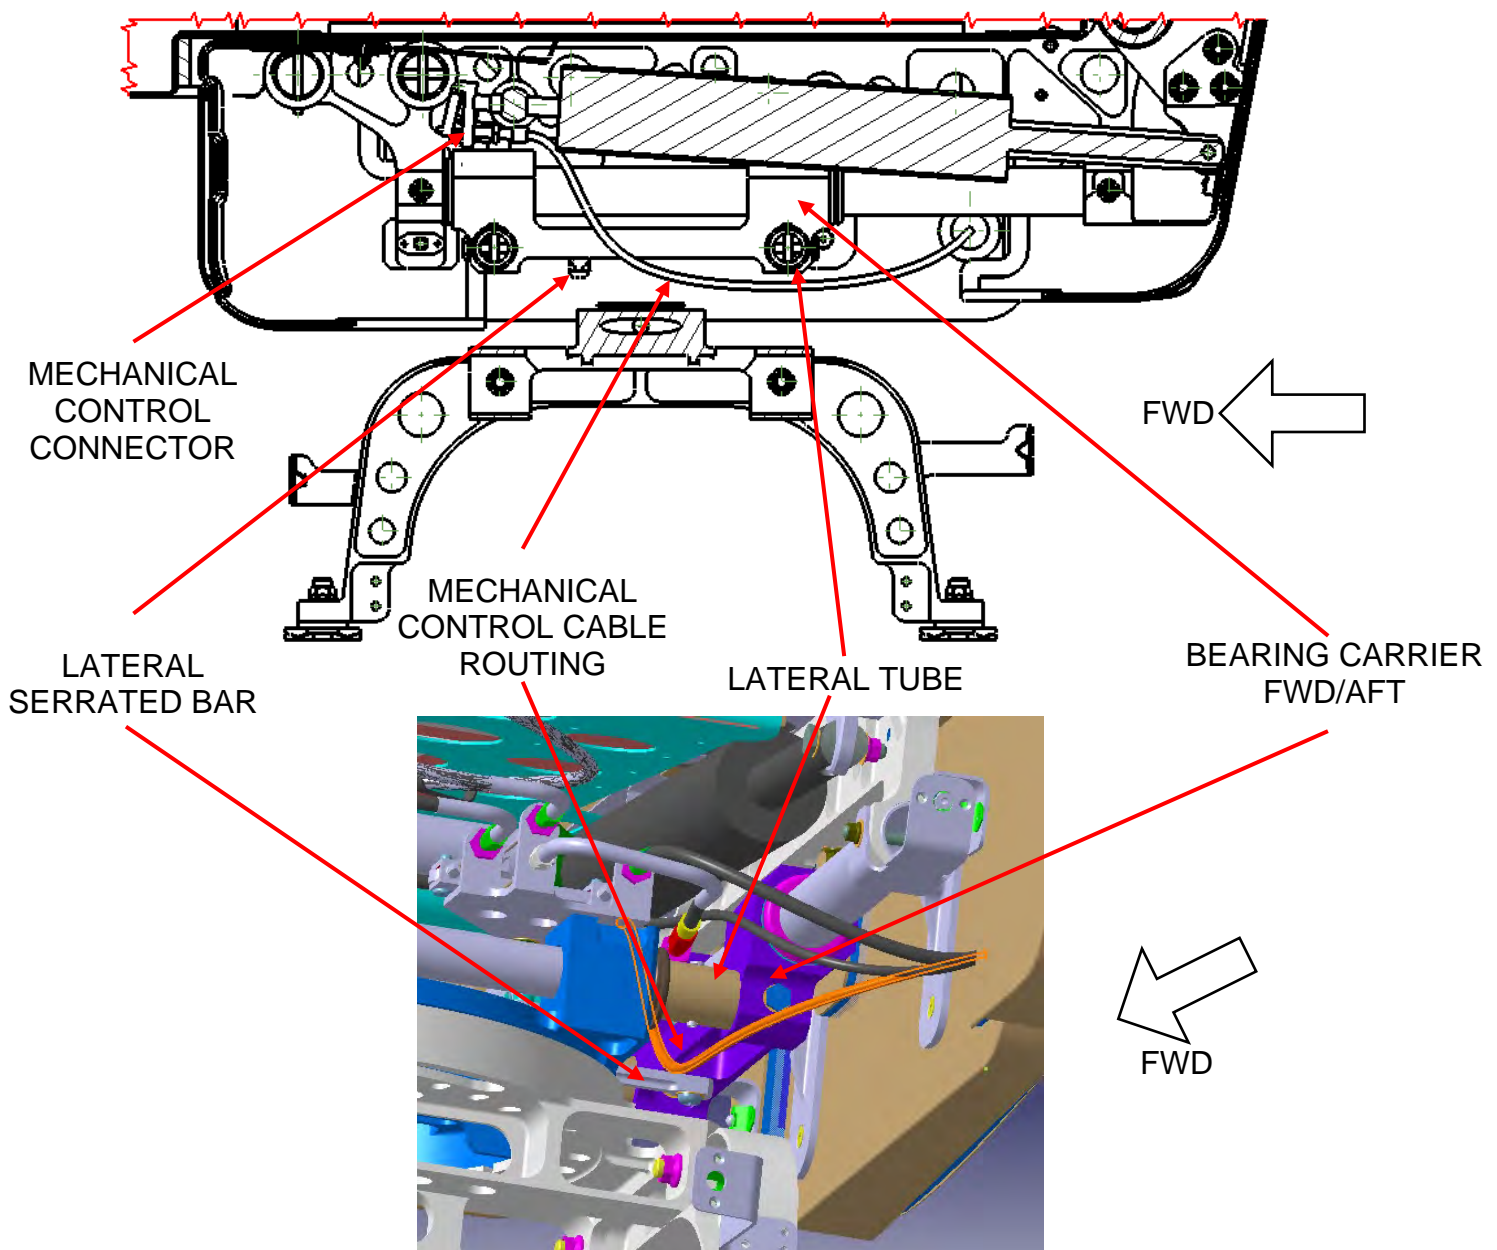

FIGURE 7
- b. Route the mechanical control cable (2-160) under the bearing carrier fwd/aft (7-290, 7-295), upward and between the rear lateral tube (7-330) and the lateral serrated bar (7-230) as shown in figure 7.